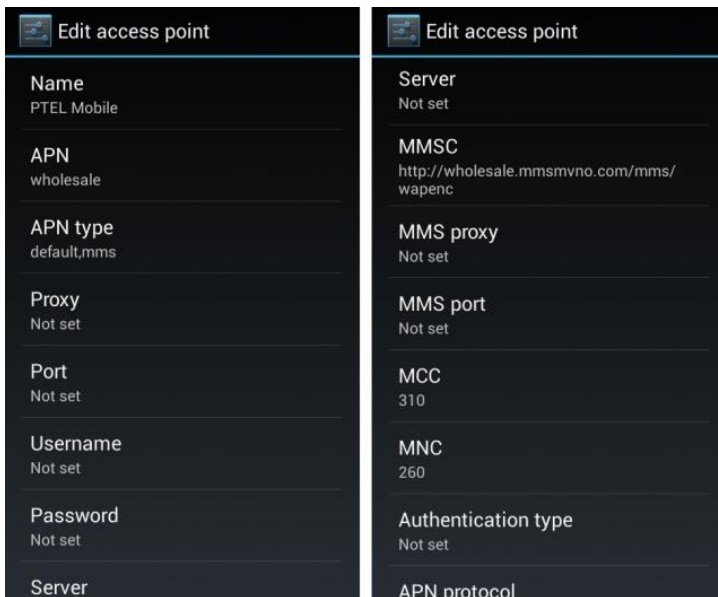

Figure 4
- Enter in all of the required information in each field by clicking into it and then clicking **OK** to save (see Figure 4).